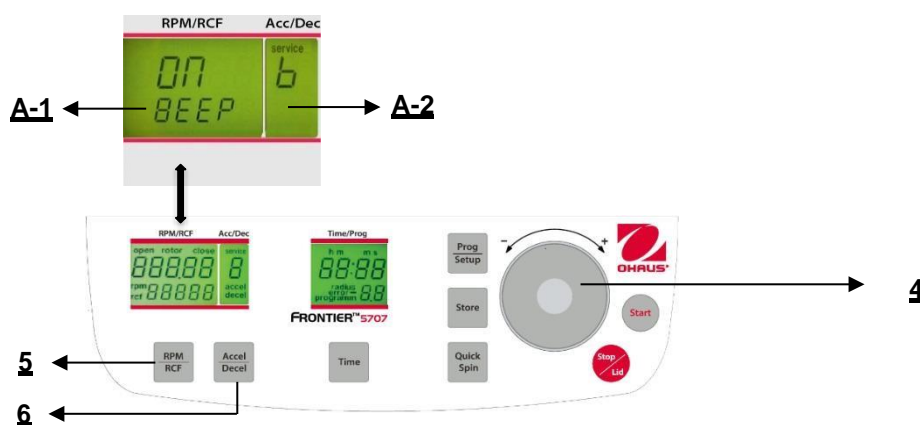

Figure. 32
Proceed as described under point 4.1.2 to enter this program mode and then press the key **"Accel/Decel"** (6). In the display **"Acc/Dec"** (A-2) the word **"Service"** flashes. Now select the letter **"B"** with the adjusting dial (4). As a result, in the display **"RPM/RCF"** (A-1), the word **"ON/BEEP"** appears. After pressing the key **"RPM/RCF"** (5), you can turn the keyboard sound (On) or (Off) with the adjusting dial (4). (See figure 32).